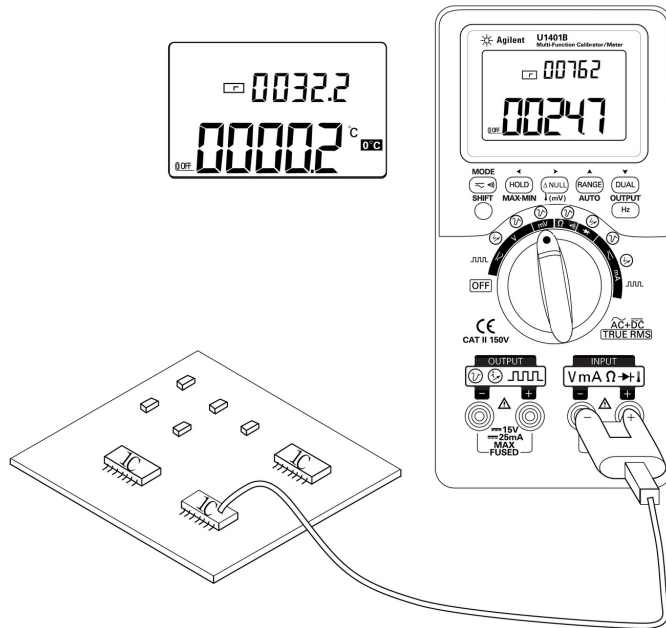

Figure 3-4 Surface temperature measurement
- 4 Plug the thermocouple adapter (with the thermocouple probe connected to it) into the positive and negative input terminals (**Figure 3-4 on page 53**).